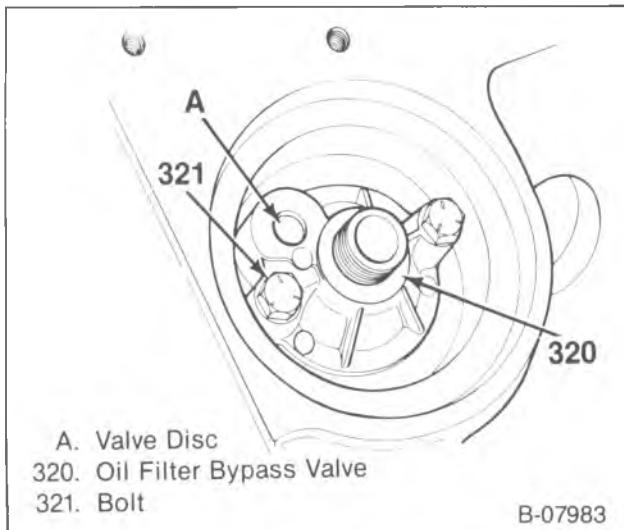

Figure 49—Oil Filter Bypass Valve
OIL FILTER BYPASS VALVE**Disassemble (Figure 49)**
1. Bolts (321).
2. Oil filter bypass valve (320).
**Inspect (Figure 49)**
**Assemble (Figure 49)**
1. Oil filter bypass valve (320).
2. Bolts (321).
- Bolts (321) to 9.0 N·m (80 in. lbs.).